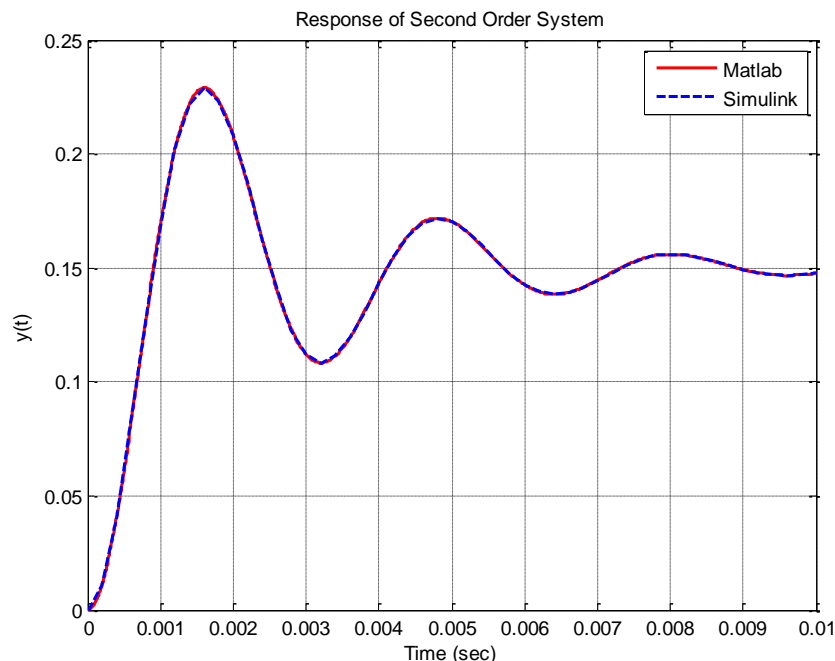

Figure 3. Response of second order system to a step of amplitude 0.1
15) Now you need to modify your m-file so you can plot the results for a second order system with a natural frequency of 2000 rad/sec, a damping ratio of 0.2, and a static gain of 1.5. It is probably best to just copy and paste what you already have. If you have done everything correctly, you should get a graph like that shown in Figure 3. You need to include your graph in your memo, but not your code.